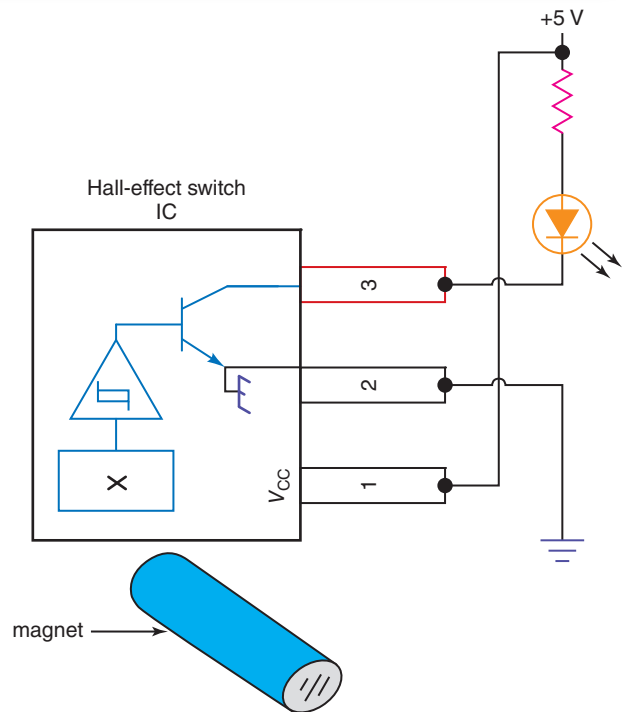

Fig. 5-51 Art for chapter review questions 5-66, 5-67, 5-68, and 5-70.
- 5-66. Refer to Fig. 5-51. If the Hall-effect IC uses *unipolar switching*, then increasing the magnetic field by moving the south pole of the magnet toward the sensor will turn the switch _____ (off, on), while removing the permanent magnet
- 5-67. Refer to Fig. 5-51. If the IC is the bipolar 3132 Hall-effect switch, then the _____ (N, S) pole of the magnet will turn the device on while the _____ (N, S) pole will turn the output transistor off.
- 5-68. Refer to Fig. 5-51. If the IC is the bipolar 3132 Hall-effect switch, then moving the north pole of the magnet near the sensor will turn _____ (off, on) the switch, the voltage at pin 3 will _____ (drop LOW, raise HIGH), and the LED will _____ (light, not light).
- 5-70. Refer to Fig. 5-51. The output of this IC is _____ (analog, digital) in nature.